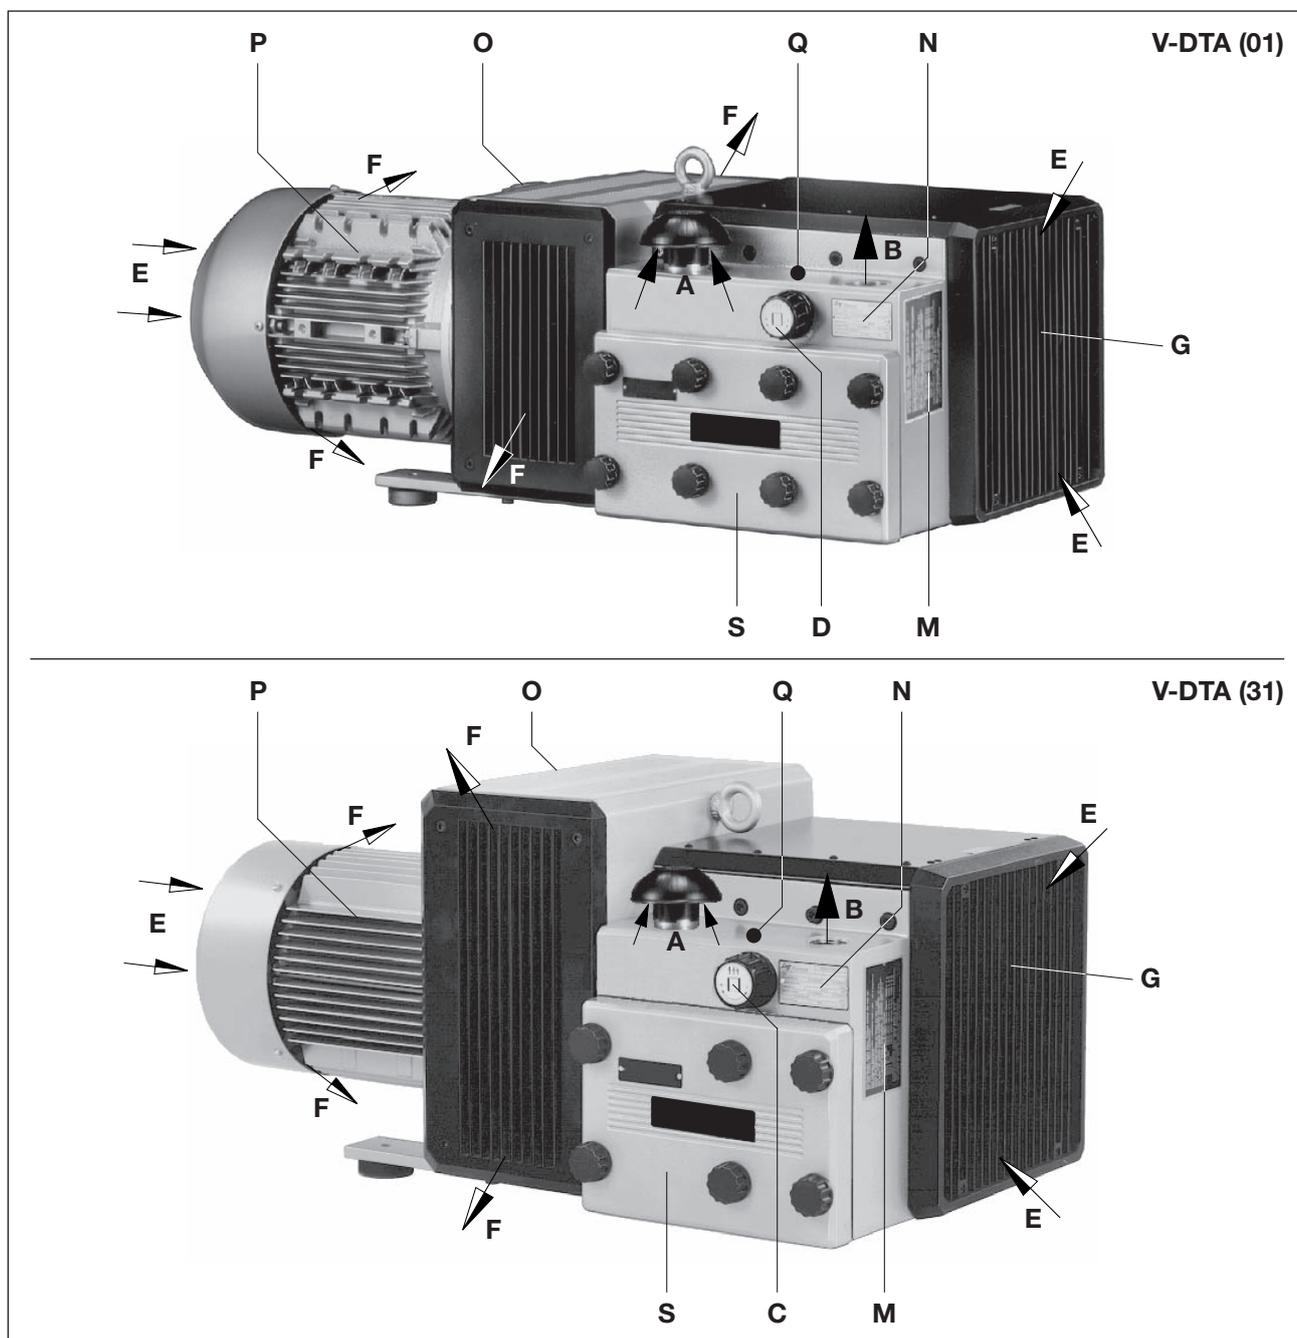

Fig. 2 Compressor V-DTA
The pressure regulating valve (Fig. 2/D) is used to set the pressure to the required values with an upper limit. Versions (01) to (30) have cooling exits from two sides whilst versions (31) to (60) have cooling exits on one side only.
These dry running rotary vane compressors, V-DTA 60, V-DTA 80, V-DTA 100 and V-DTA 140, are suitable for creating excess pressure between 0 and the maximum limit (in bars) given on the data plate Fig. 2/N). Constant operation is permissible.
The filter housing (Fig. 2/S) should be easily accessible. The cooling air inlets (Fig. 2/E) and the cooling air outlets (Fig. 2/F) must be at least 30 cm away from adjacent walls. Cooling air coming out must not be sucked in again.. or maintenance work there must be a minimum of 40 cm in front of the filter housing (Fig.. 2/S) and the inlet grating (Fig.. 2/G).
- a) Pressure connection at (Abb. 2/B).
The required pressure ranges can be set with the pressure regulating valve (Fig. 2/D) as shown on the symbol plate affixed to the rotary knob.
- a) The motor's electrical data is given on the data plate (Fig. 2/N) or on the motor data plate. The motors comply with DIN EN 60034 and are in protection class IP 55 and insulation class F. The appropriate connection diagram is located in the motor's terminal box (not for the plug connection version). Compare the motor data with the data of the existing mains network (current type, voltage, network frequency, permitted current value).
When the machine is at operating temperature the surface temperatures on the components (Fig. 2/ Q) may go above 70°C. You must avoid touching the hot surfaces (marked with warning plates).
The desiccant bags in the filter housing (Fig. 2/S) must be removed before initial start-up.
- ▷ The drive shaft direction of rotation is shown by the rotation direction arrow (Fig. 2/O) on the motor flange.